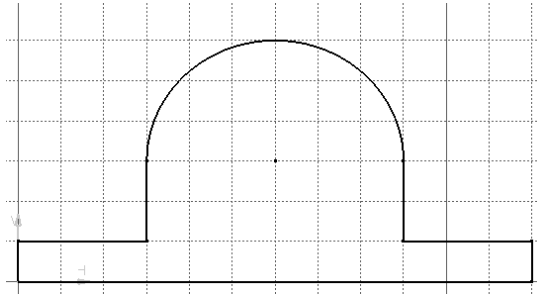

Figure 2-36 The sketch after drawing the outer loop
- Draw the sketch of the model using the **Profile** and the **Circle** tools, refer to Figures 2-36 and 2-37.
The sketch, after drawing the outer loop, is shown in Figure 2-36.